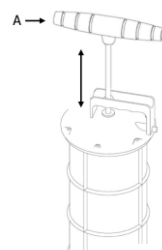

Fig. 3
6. Pump the handle (A) up and down to remove fluid from the desired tank or container (Fig. 3).